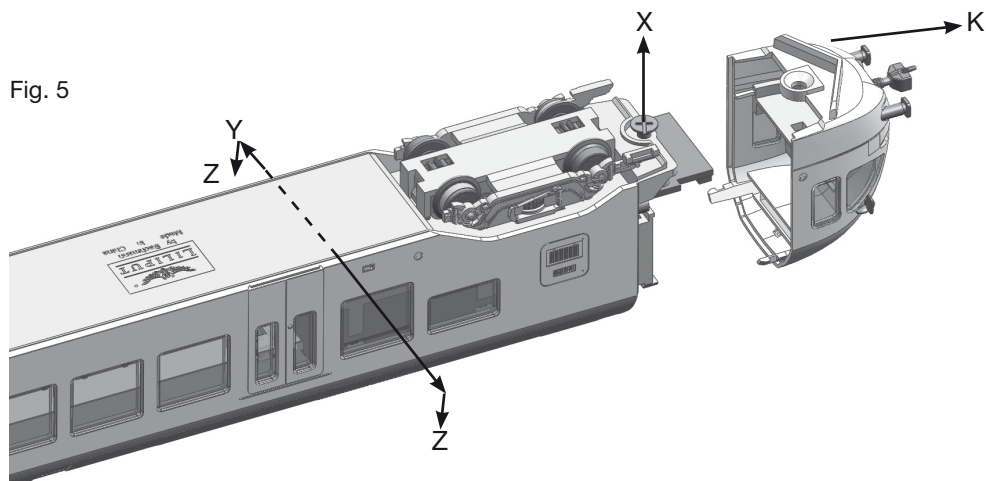

Fig. 5
When installing the decoder it is advisable to remove the housing of Unit A from its bogies. Proceed as shown in **Fig. 5** by loosening the screw (X) and pulling the head (K) of the housing forwards. You can then clip the housing out by splaying (Y) and removing upwards (Z). The housing is refitted by following the procedure in reverse.